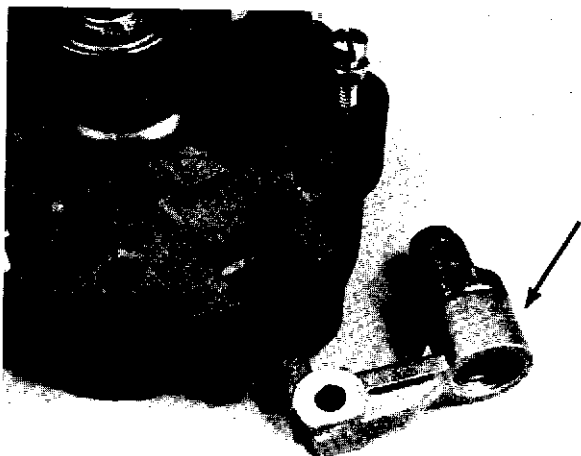

Fig. 9-9
- (4) Lift off the three clutch arms (Fig. 9-9).